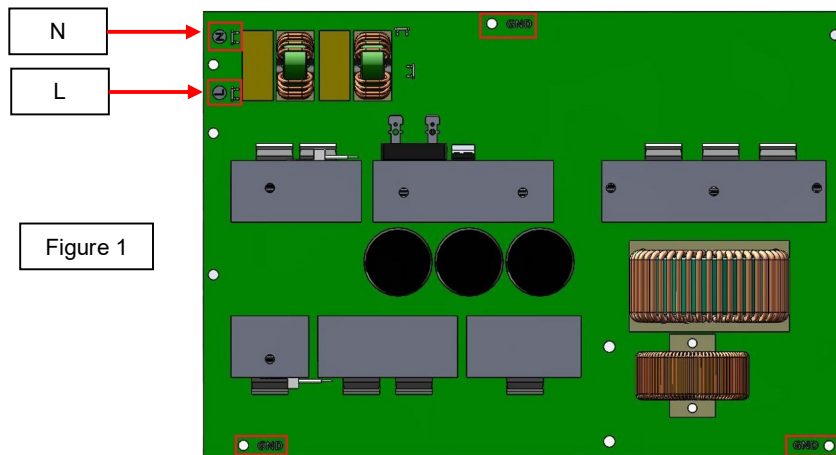

Figure 1
3. Check for 230Vac +/- 15% present at terminals "L" & "N" located on Power Board (see **Figure1**)